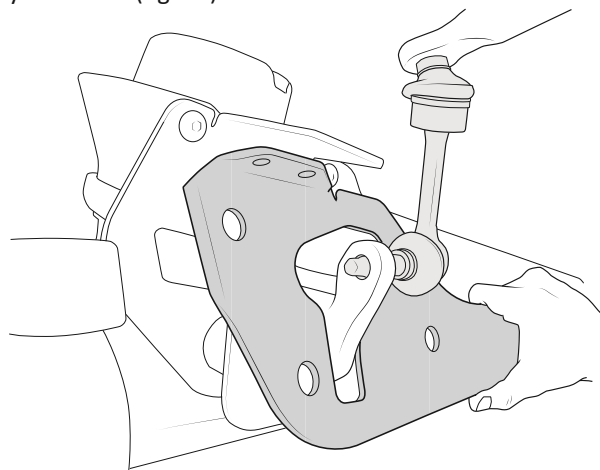

Figure 20
- D. Position the forward track bar bracket and insert the sway bar links back in the factory location and torque to 110 lb-ft before installing any hardware (fig. 20).